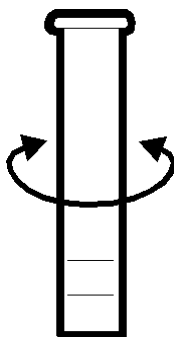

Figure 2, Swirling the Sample
- Using your index finger Push out the phenol red tablet from the foil and allow it to fall into the tube. Install the cap and swirl tube for 10 seconds to mix contents.(See Figure 2).